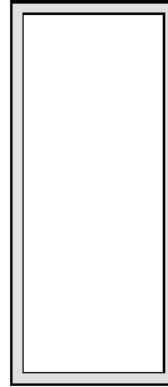

Figure 27. Solder Paste Application on Pins
5. The aperture opening for the signal pads should be between 50–80% of the QFN pad area as shown in Figure 27.